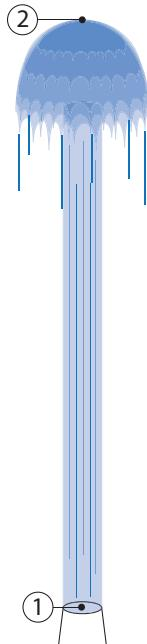

Figure 3: Schematic for Problem #2.
In Figure 3 provided below, a nozzle forces air into the compressor of a jet engine. The jet is flying at 200 [m/s], which is the velocity that enters the engine at (1). The ratio of inlet to exit area of the inlet nozzle is 1.65. Determine the velocity of the air entering the compressor at location (2). If the mass flow rate through the jet engine is 192 [kg/s], and the ratio of nozzle inlet area (1) to nozzle exit area (3) is 2.875, assuming the density of air is still 1.225 [kg/m³], determine the velocity and pressure at (3), as well as the pressures at (1) and (2). Hint: apply (0) at a location with known pressure and velocity.